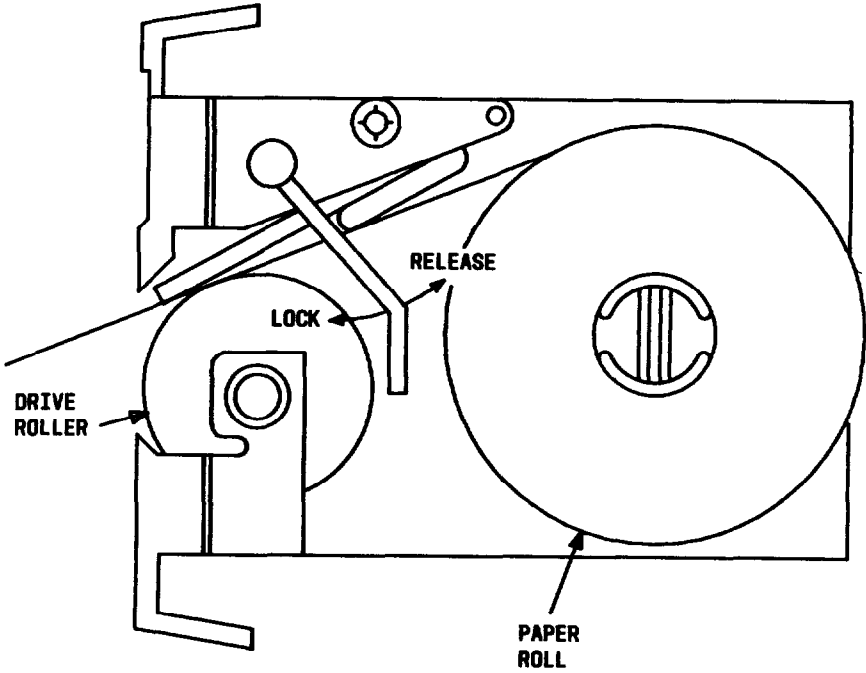

Fig. 5—Printer Mechanism—AP-20 Printer
3.11 Open the printer door and remove the roll of paper. Place the head pressure level in the release position (Fig. 5). Saturate a gauze pad with alcohol and place it between the printhead and drive roller as if loading paper. Operate the FEED switch until the gauze pad is fed through the roller and printhead. Repeat this procedure several times. Allow time for the alcohol to evaporate before replacing the roll of paper and close the printer door.
3.12 To load the printer with a new roll of paper, pull open the printer door and release the pressure lever (Fig. 5). Remove the empty core from the mandrel and slip on a new roll of paper. Thread the paper between the printhead and drive roller while operating the FEED switch. Be sure the paper is centered in the front opening. Place the pressure lever in the locked position and close the printer door.